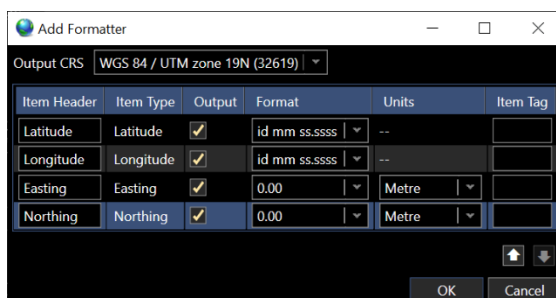

FIGURE 14-81 ADD FORMATTER DIALOG
- II. Adding a data source to the Selected Data Sources will open an **Add Formatter** dialog (see Figure 14-81) allowing the selection of the specific data to query in the case of data sources providing multiple values, e.g. Geographic2D, the text to appear in the query result column header, the units to use and the data format, e.g. number of decimal places, include units term, etc. (see section 14.7.4.1)